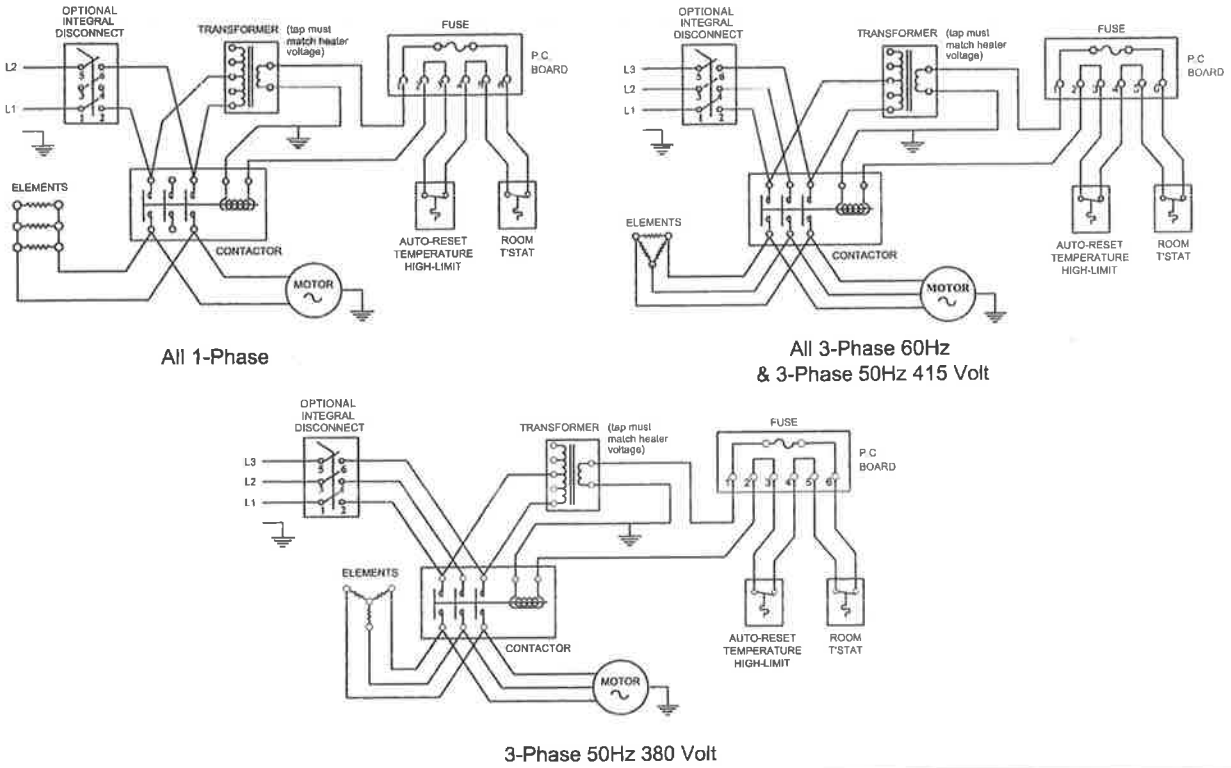

FIGURE 8
- a. Check that all connections are secured and comply with the applicable wiring diagram (see Figure 8) and code requirements,